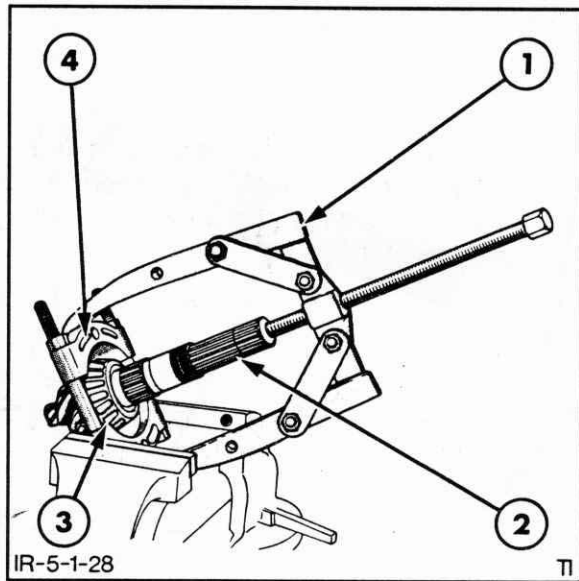
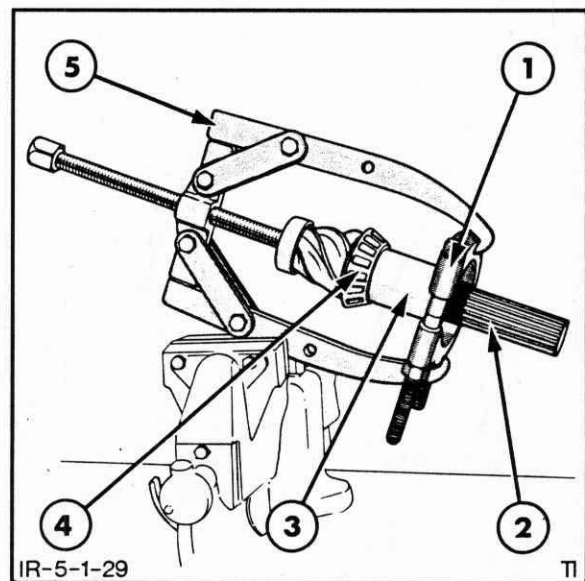

Figure 5-28
Figure 5-29
2. If necessary, to remove the rear pinion bearing, use Tool #1003 or 9516 and 951 or 9190 as shown in Figure 5-28. To install a new bearing use the same tool in conjunction with a sleeve of suitable size, Figure 5-29, to press the inner bearing track squarely against the pinion gear.